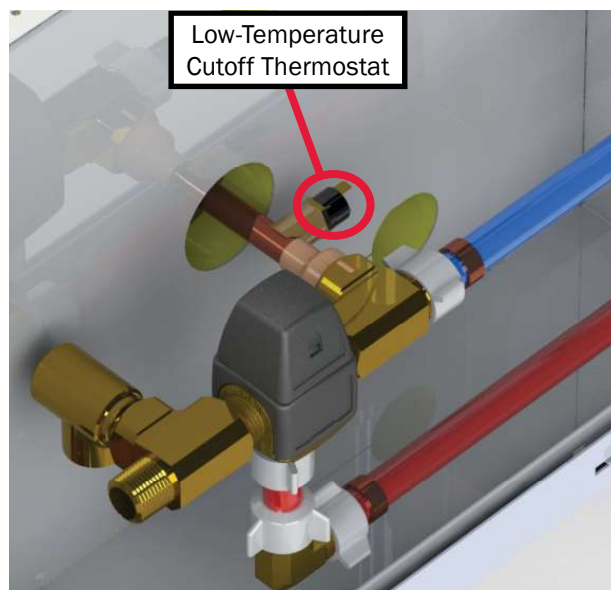

Figure 28
2. Locate the low-temperature cutoff thermostat on the cold domestic water inlet pipe at the back of the Aqua-Hot (see Figure 28).